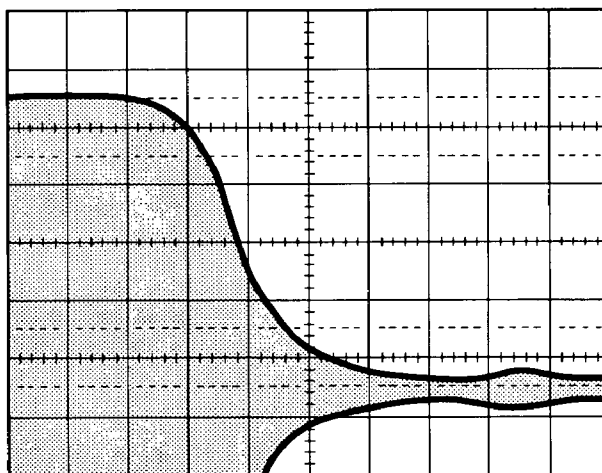

Figure 5-49d. Pulse Modulation Fall Time Waveform.
14. Adjust the oscilloscope horizontal position control to view the modulation envelope fall time. Position the waveform so that the 90% point of the modification envelope crosses a convenient vertical graticule. Refer to Figure 5-49d.